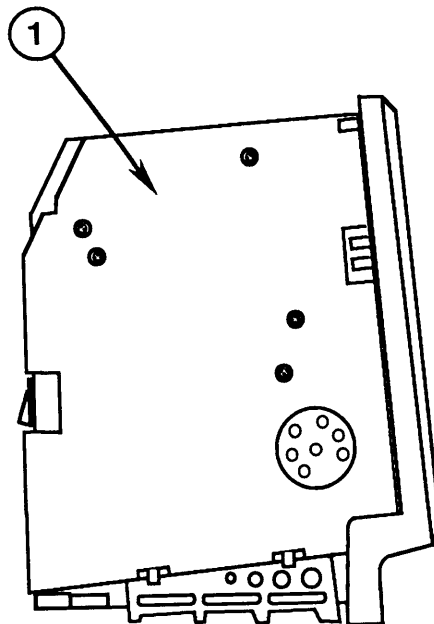

FIGURE 2
1. Make sure that the insulating paper is in the proper position (Figure 2, #1) and that all cables are connected. Carefully slide the cover back onto the computer and check to see that it is properly seated.